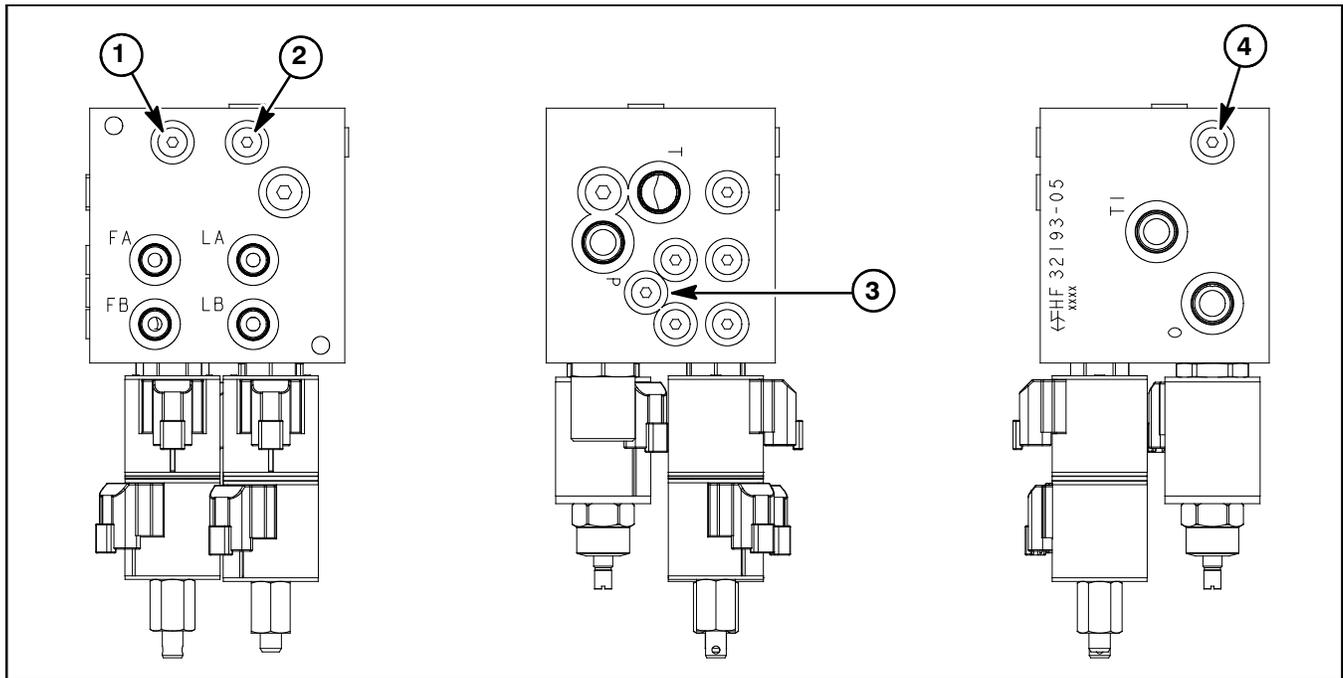

Figure 38
The control manifold includes four (4) orifice fittings that thread into specific manifold ports. Access to these orifice plugs requires removal of the manifold plug. Orifice locations are shown in Figure 38.